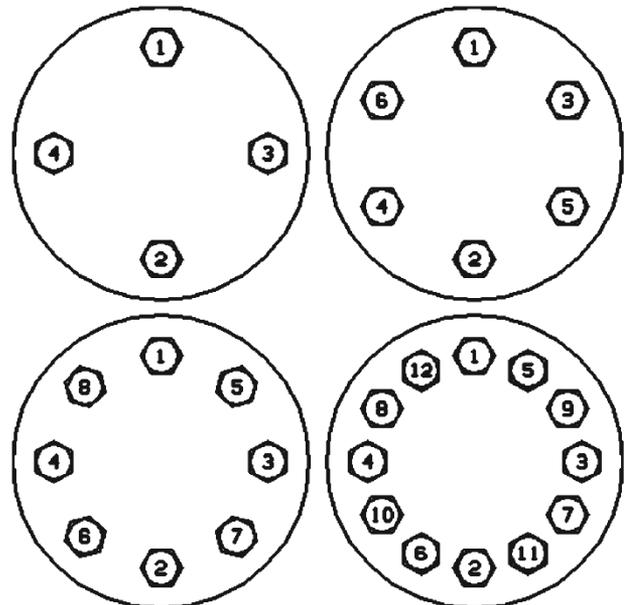

Figure 2: Torque Sequence
1. Grease the threads of the valve body studs (7) and the bearing surfaces of the body nuts (8).
2. Assemble the body nuts (8) onto the body studs (7) manually, and hand tighten evenly so that the internal parts are held in place. The face of the body flange (1) should be parallel to the top surface of the valve body.
3. Tighten the body nuts (8) evenly by applying the torque in the increments and the sequences as defined on the factory assembly drawing.
Note: Tighten the body nuts (8) in increments of 25%, 50%, 75% and 100% of the total torque requirements. Go through each sequence as specified in Figure 2 below until the final torque values are reached.